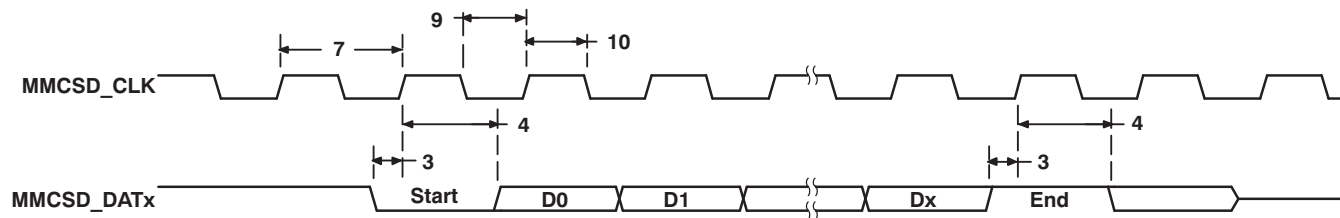

Figure 6-27. MMC/SD Host Read and Card CRC Status Timing
(see Figure 6-25 and Figure 6-27)
**Table 6-41. Switching Characteristics for MMC/SD** (see Figure 6-24 through Figure 6-27)